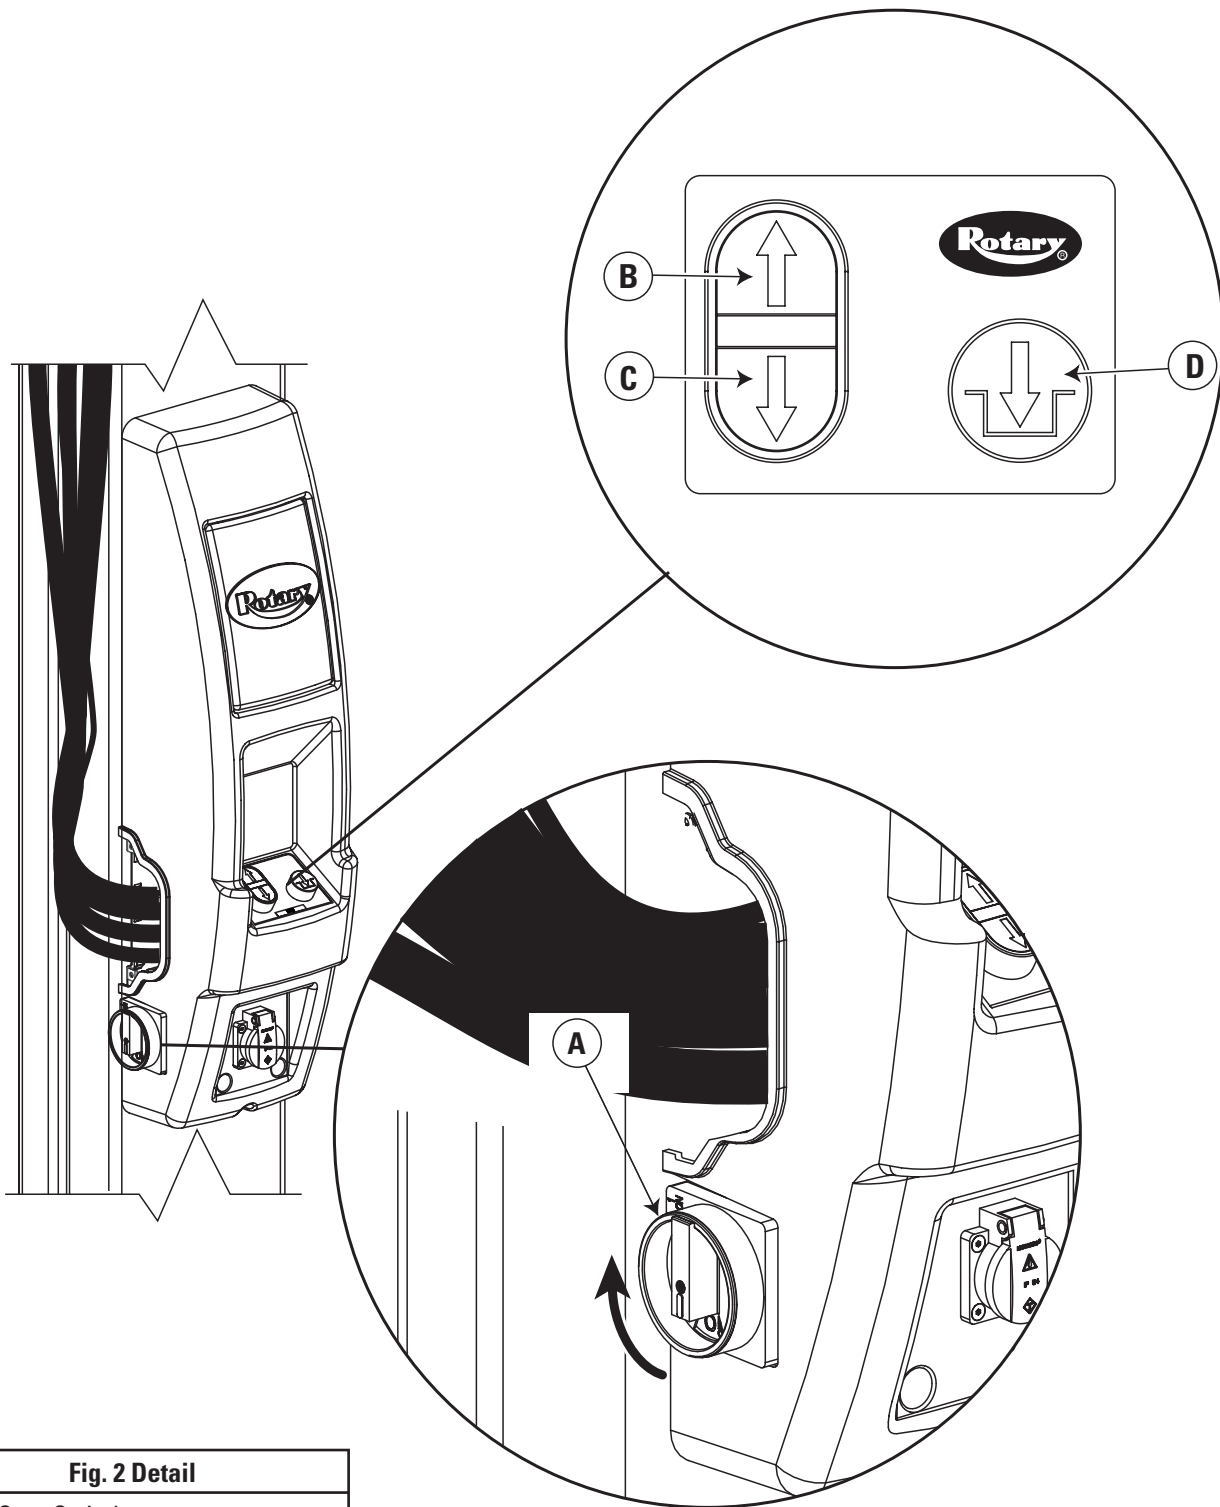

Fig. 2 Detail
For E series lifts turn both E-Stop switches "ON", Fig. 2.
- For E Series Lifts: Push  on control panel, Fig. 2.
- For E Series Lifts: Actuate  control panel to lower lift onto locking latches, Fig. 2.
- For E Series Lifts, Fig. 2: